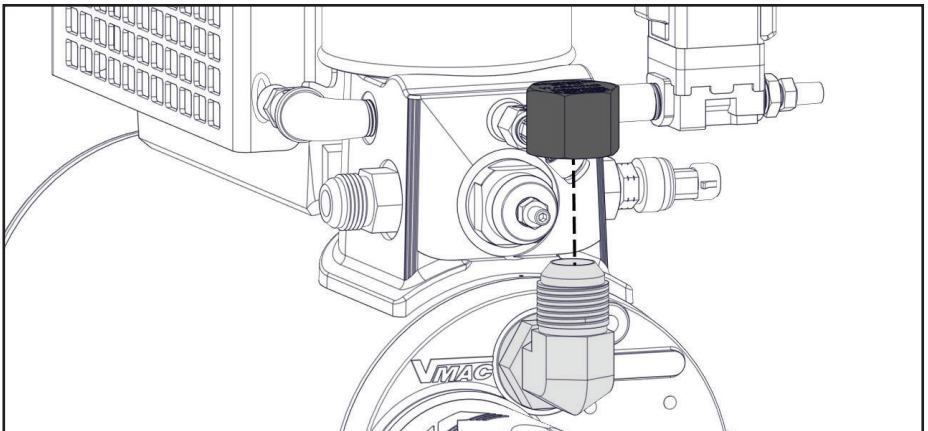

Figure 29 — Compressor oil fill
- Remove the filler cap on the WHASP Tank. Fill the WHASP Tank with V-MAC compressor oil until it reaches the "MAX" mark. The air compressor system holds approximately 4 L (1 USG) of oil (Figure 29).